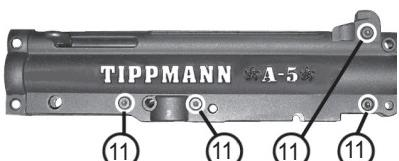

Figure 15: Remove remaining screws to separate receiver halves.
2. Remove four upper Receiver screws (#11, Figure 15).
3. Lift the left upper Receiver half (10) from the right upper Receiver half (1).
6. Install four (three on Response Trigger markers) Receiver Screws (#11, Figure 15). Tighten the Screws just enough to hold both halves flush, yet loose enough to allow you to insert the Barrel Adapter assembly.
8. Insert the Front Sight, with its slot facing the rear of the marker, into the top front of the Receiver. Insert the Front Sight screw (11) to hold in place.
9. Install the Front Grip to the upper Receiver. Secure with lower Screw (11) and the Screw (52) and Washer (51) inside the bottom of the grip.
10. Make sure all Receiver Screws (11) are tight (do not overtighten and strip threads).